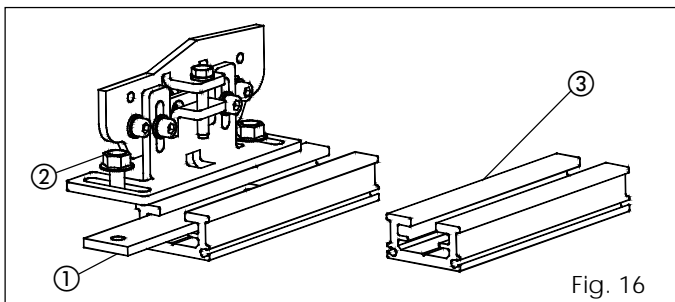

Fig. 16
- Fit the leaf attachment profile (accessory fig. 16 ref. ③) on the top of the leaf, using adequate screws.
- Secure the leaf on the relevant carriages, using the supplied plates (fig. 16 ref. ①) and screws (fig. 16 ref. ②).